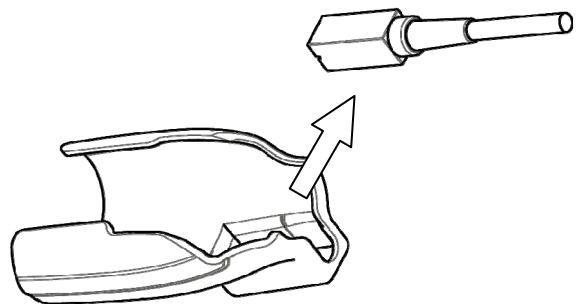

Fig. 11 How to release the Magnetic sensor from the Magnetic sensor attachment
- 2) Release the magnetic sensor from the magnetic sensor attachment as shown in Fig. 11.